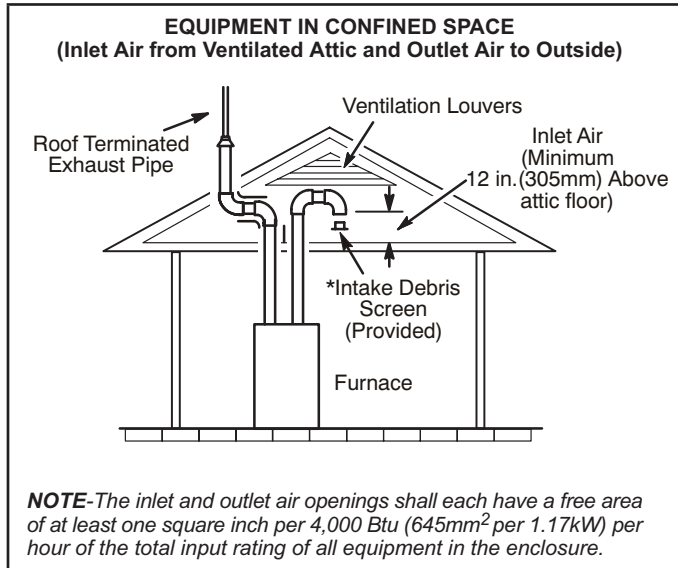
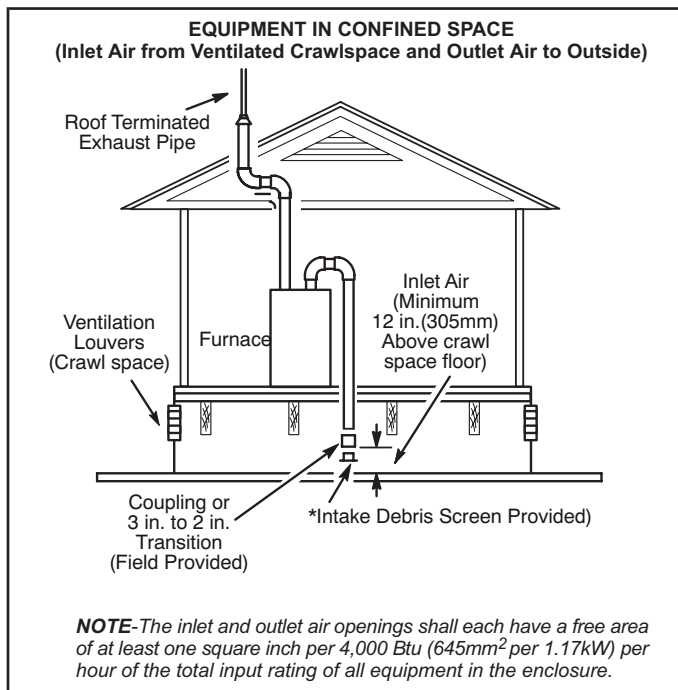

FIGURE 29
FIGURE 30
- 2 - If intake air is drawn from a ventilated attic (FIGURE 29) or ventilated crawlspace (FIGURE 30) the exhaust vent length must not exceed those listed in TABLE 7. If 3" diameter pipe is used, reduce to 2" diameter pipe at the termination point to accommodate the debris screen. Use a sheet metal screw to secure the intake pipe to the connector, if desired.